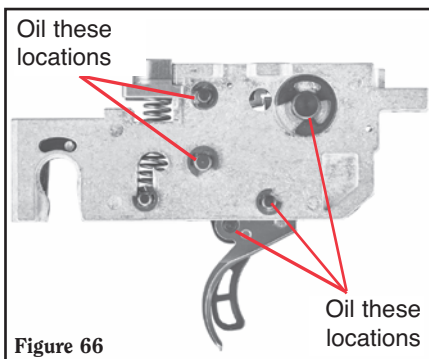

Figure 66
4. Apply a drop of an oil-type gun lubricant to the axle shafts of the trigger group as shown in Figure 66. Allow the oil to run down the shaft into the assembly.